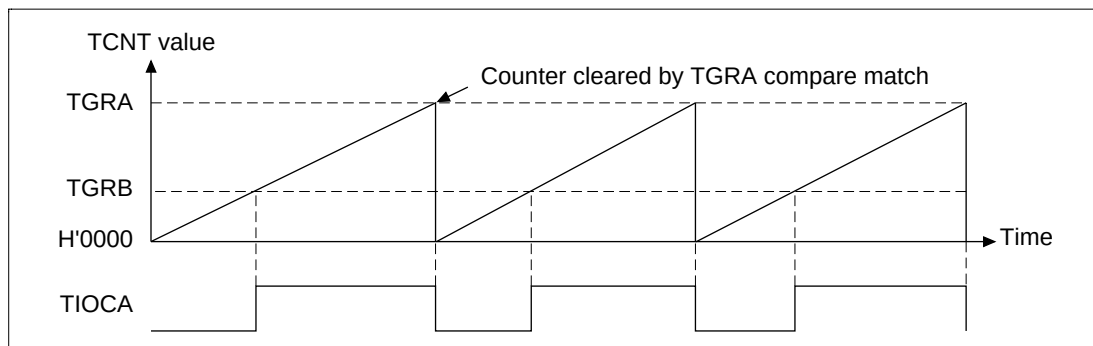

**Figure 12.25 PWM Mode Operation Example (Mode 1)**
**PWM Mode Operation Examples—PWM Mode 1 (Figure 12.25):** A TGRA register compare-match is used as a TCNT counter clear source, the TGRA register initial output value and output compare output value are both 0, and the TGRB register output compare output value is a 1. In this example, the value established in the TGRA register becomes the period and the value established in the TGRB register becomes the duty cycle.